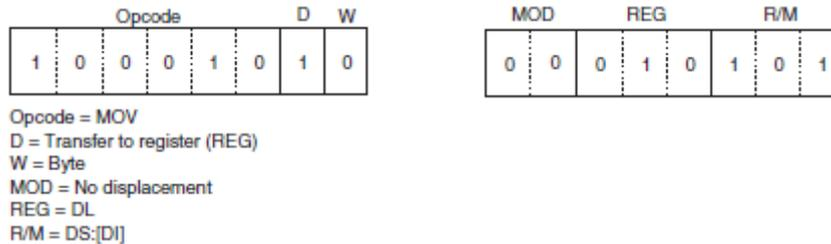

Figure 4-5: A MOV DL, [DI] instruction converted to its machine language form
- This mode is used whenever memory-data are referenced by only the displacement mode of addressing for 16-bit instructions (Figure 4-5).